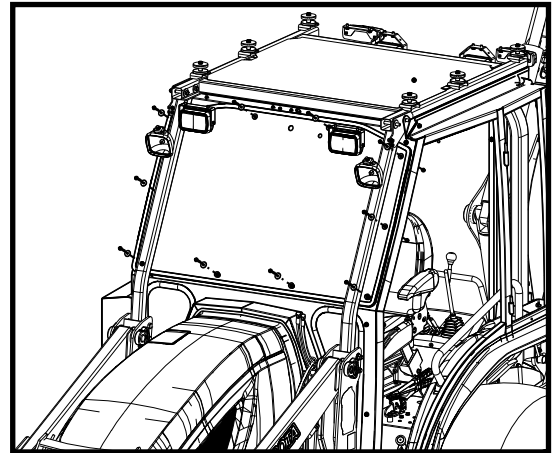

Figure 11.1: Windshield
11.1 Place the windshield onto the front of the side frames and secure it with (10) 1/4-20 x 1-1/2" flanged hex bolts and fender washers outside, and flanged nuts inside. Tighten until there are no visible gaps between the windshield rubber and frame (see Figure 11.1, roof hidden for clarity).